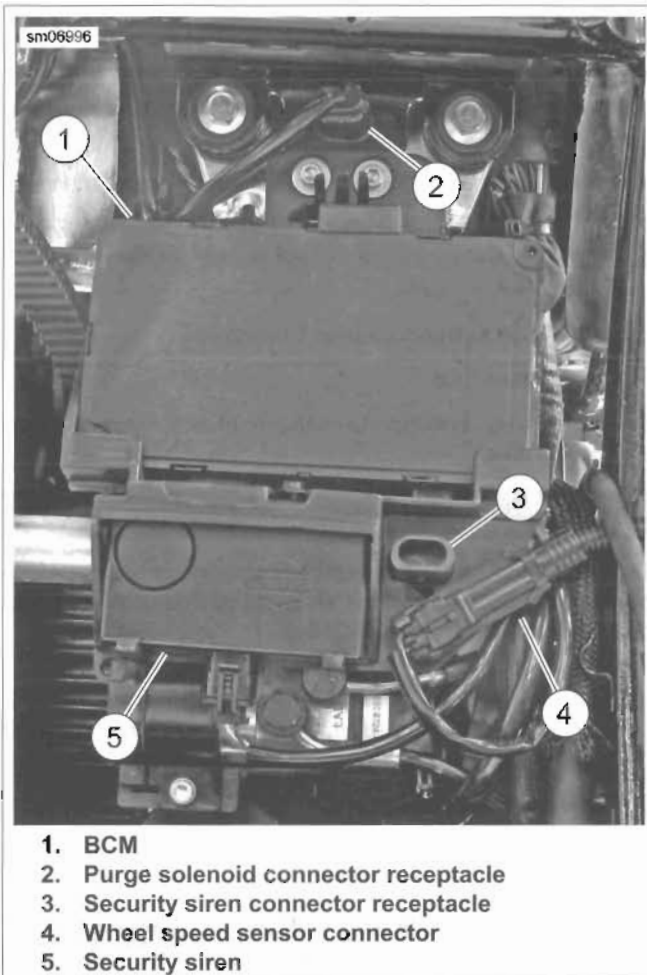

Figure 7-8. Body Control Module (BCM): All But FXSB
6. See Figure 7-8. Detach body control module (BCM) (1) from electrical panel and remove both electrical connectors.
2. See Figure 7-8. Connect both BCM connectors and install BCM (1) onto electrical panel.